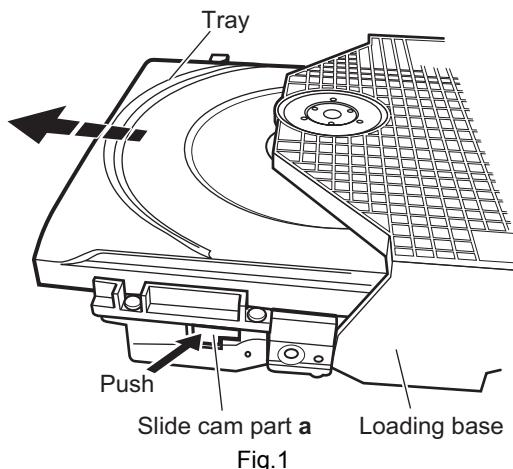
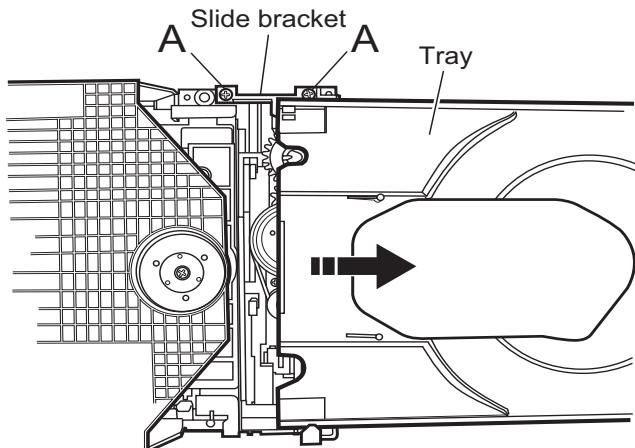
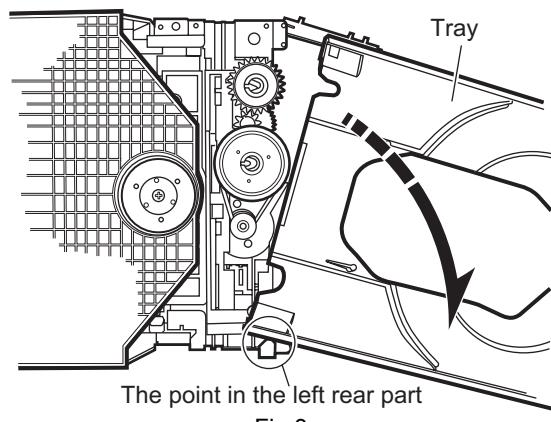

Fig.1
Fig.2
Fig.3
### 2.2.1 Removing the tray (See Figure 1, Figure 2, Figure 3, Figure 4, Figure 5, Figure 6)
- (1) Push **a** of the slide cam on the hole in the right side of the loading base by using a driver until it stops. (See Figure 1.)
- (2) The tray comes out. Pull the tray in a front direction until it stops.
- (3) Remove the two screws **A** attaching the slide bracket. (See Figure 2.)
- (4) Tilt the tray in a direction of the arrow around the point in the left rear part of the tray. (See Figure 3.)